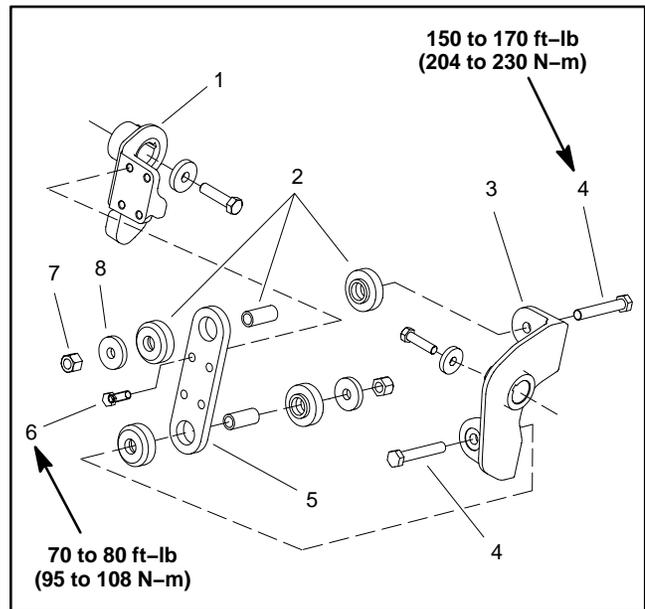

Figure 11
- A. Remove fasteners that secure coupling plate to coupling on stomper arm to be removed (Fig. 11).
1. If bearings were removed from stomper arm, install retaining ring into groove in upper bore of stomper arm. Make sure that retaining ring is properly seated in groove. Position bearing spacer and press two (2) ball bearings into stomper arm bore.
A. Torque grade 5, 5/8" cap screws (item 4, Fig. 11) from **150 to 170 ft-lb (204 to 230 N-m)**.
C. Torque 1/2" cap screws (item 6, Fig. 11) from **70 to 80 ft-lb (95 to 108 N-m)**.